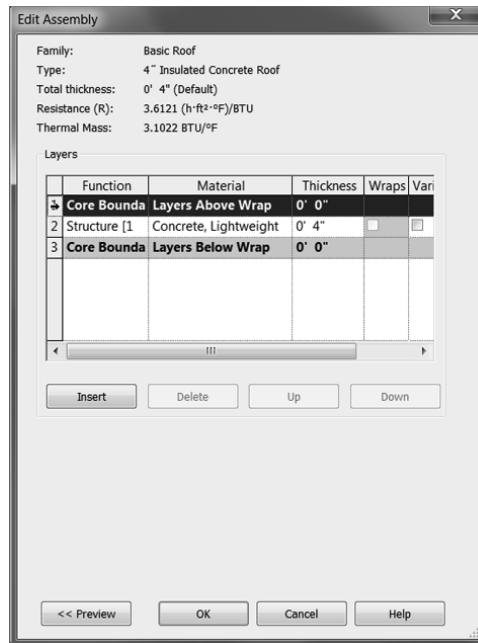

FIGURE 7.5: Changing the material and adding a layer
8. Change the structure Thickness to **4" (100 mm)**, as shown in Figure 7.5.
9. Insert a new layer above the core boundary. (You do this by clicking the number on the left side of the Layers Above Wrap row and clicking the Insert button below the Layers section, as shown in Figure 7.5.)